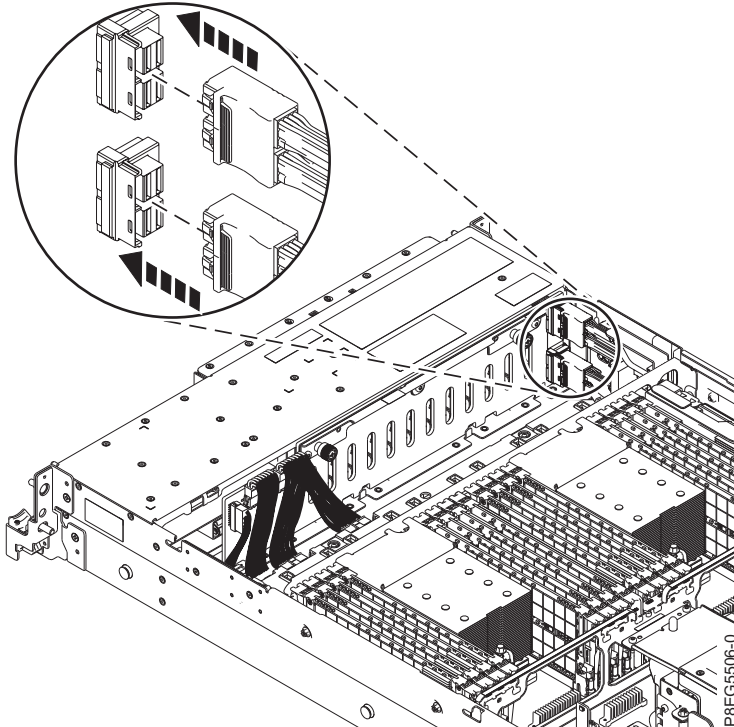

Figure 36. Reconnecting the front SAS cables
33. Reconnect the front SAS cables to the disk drive backplane as shown in Figure 36 on page 37. Push the connector in until the connector latch clicks.